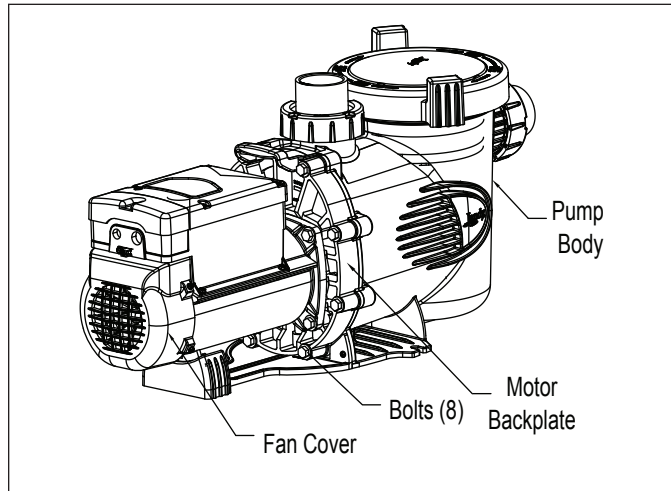

Figure 7. Remove the Pump Housing
3. Using a 9/16" wrench, loosen the bolts connecting the pump body to the motor backplate. See Figure 7.
7. Remove the fan cover on the back of the motor by removing the screws. (See Figure 7.) The motor shaft and fan will be exposed.